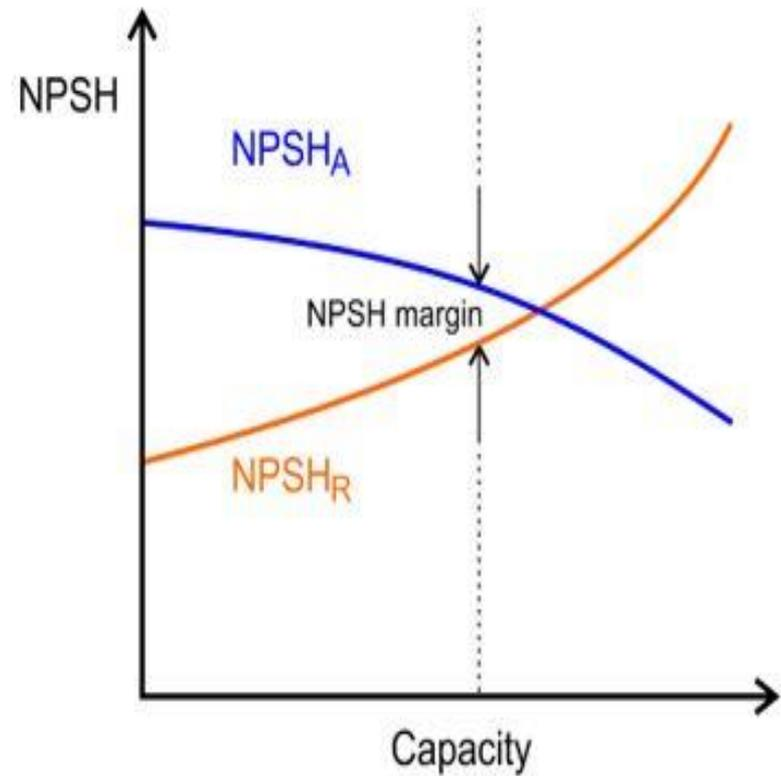

Figure 3. Variation of NPSH-R and NPSH-A with capacity (discharge flow)
- NPSH-R and NPSH-A are not constants – they are both functions of flow (Figure 3) and also temperature. If there are any changes in capacity, it is important to reassess the NPSH margin. NPSH_A reduces at high flows, as frictional losses and the head requirement increase. Conversely, NPSH_R increases with flow rate.